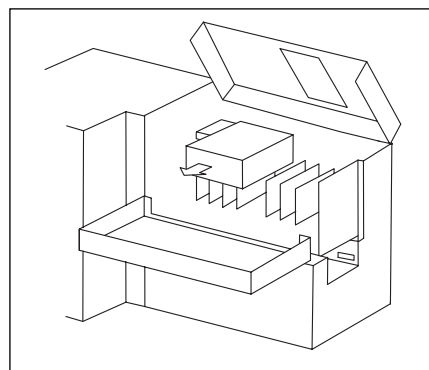

Figure 9.37
5. Slide printer forward, out of position (Figure 9.37).